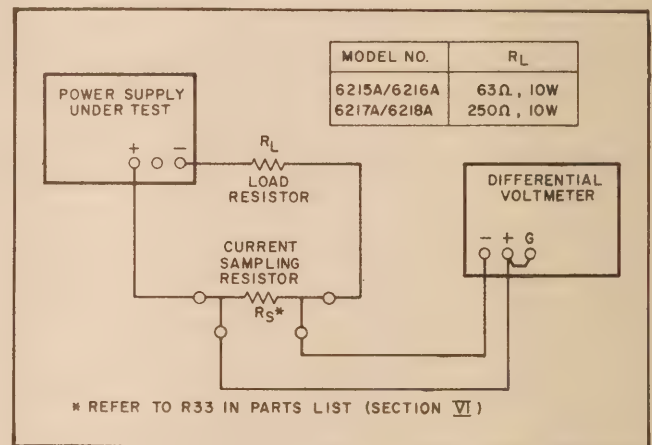

Figure 5-4. Output Current, Test Setup
- Connect test setup shown in Figure 5-4.